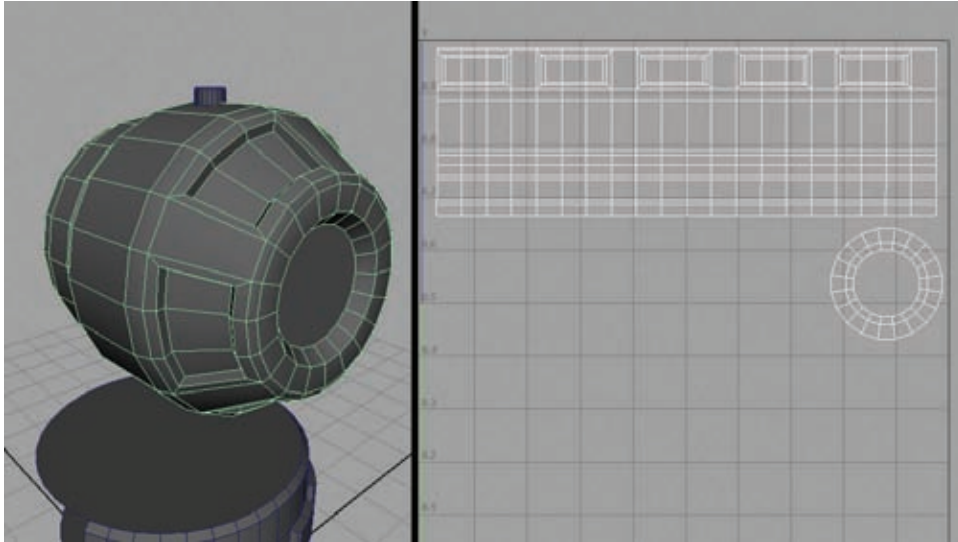

Figure 8.21
3. In the UV Editor, make any adjustments you may find necessary and lay out the UV shells as you see in Figure 8.21.